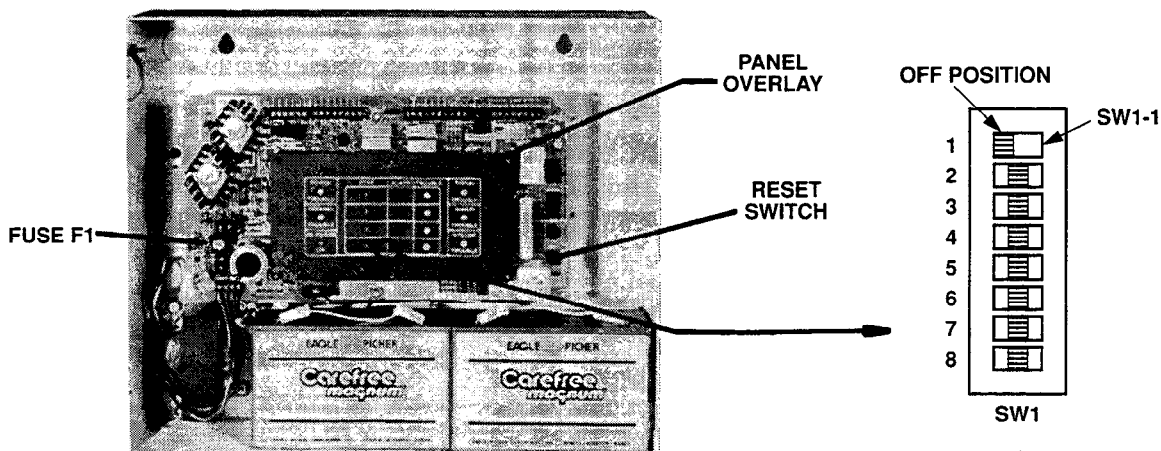

FIGURE 4
| AC POWER ON indicator OFF | Check system's 120VAC circuit breaker at the building's power distribution box. Remove overlay (Fig. 4 on page 10) and check fuse F1 (Fig. 4). If F1 is open, contact Simplex for service. Check input wiring at TB1-1 (XMER) & TB1-2 (XMER). |
- Unsnap and remove panel overlay (Fig. 4).
- Set DIP switch SW1-1 to the OFF position (Fig. 4) and press the RESET switch (Fig. 4) until the LEDs illuminate.
- Press the RESET switch (Fig. 4) until LEDs illuminate.